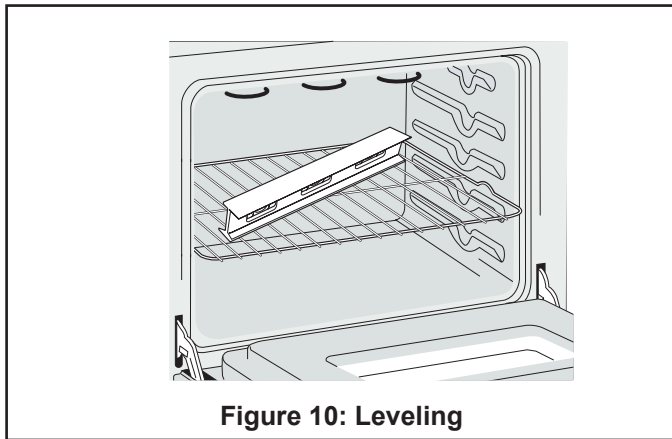

Figure 10: Leveling
1. Install an oven rack in the center of the upper oven (see Figure 10).